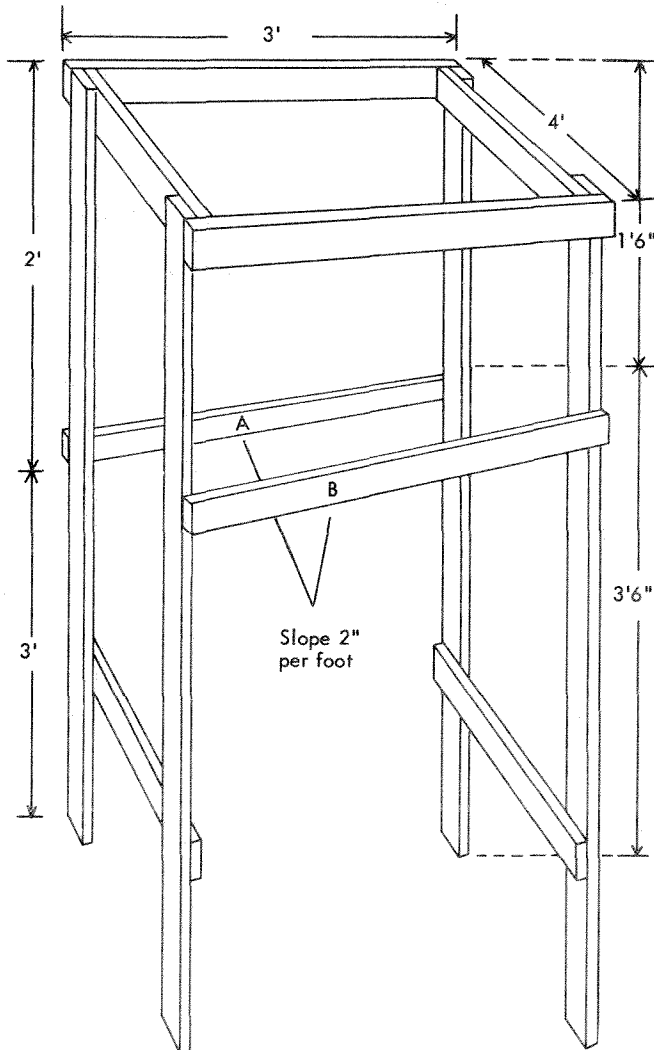

Figure 1: Framing assembly.
- The frame should be constructed as shown in Figure 1, using 2 x 4-inch lumber. Floor supports A and B are sloped to allow eggs to "roll away" after being laid.
Figure 2: Cutting the floor for a colony cage. Take a piece of 1" x 2" welded wire 4' x 6' long. Cut as shown on dotted lines. Then fold wire upward at 90° angles lengthwise along the line of the inner cuts as indicated. Slide wire into position on A and B (see Figure 1), leaving an overlap of about 1 foot on each end. The floor now may be secured in place. Fasten tabs (T) to corner posts and fashion egg collection tray.